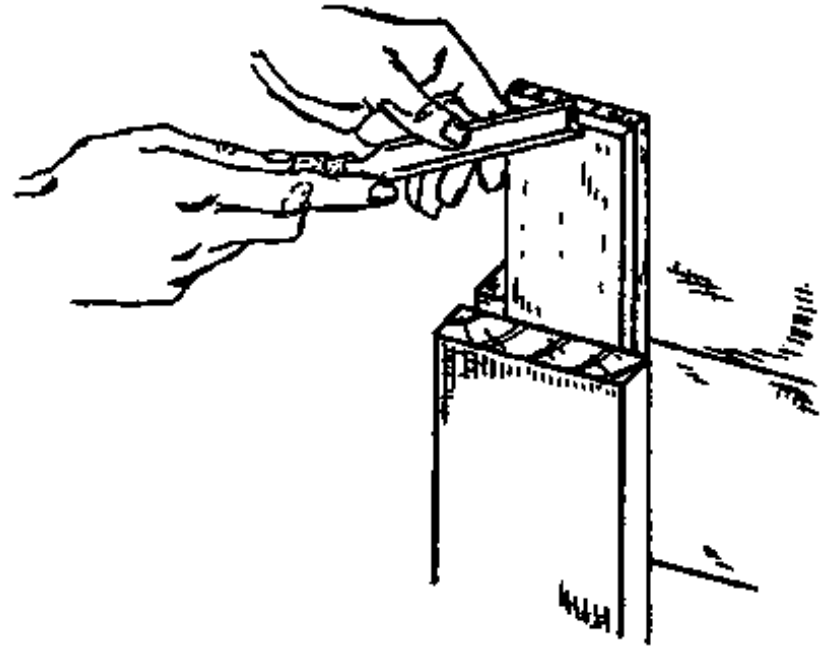

Fig. 1
- **Cut with the bevel side up, raising the handle just enough to make the chisel cut. For heavier chiselling and for rough cuts, the mallet may be used as is shown in Fig. 1.**